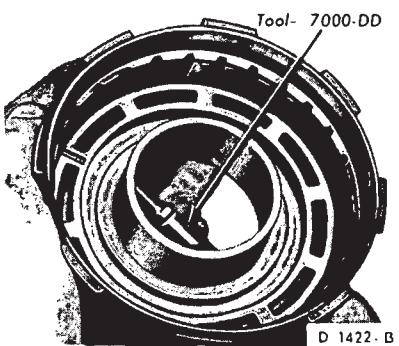

FIG. 77—Removing Reverse—High Clutch Piston
5. Remove the piston by inserting air pressure in the piston apply hole of the clutch hub (Fig. 77).